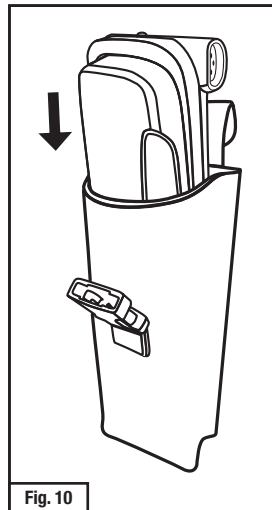

Fig. 10
- If choosing to wear the battery and holster on **left** side of waist belt, slide the TR-659 adapter with battery into the TR-656 heavy duty holster with adapter side facing the belt loop (back) of the holster (Fig. 10).